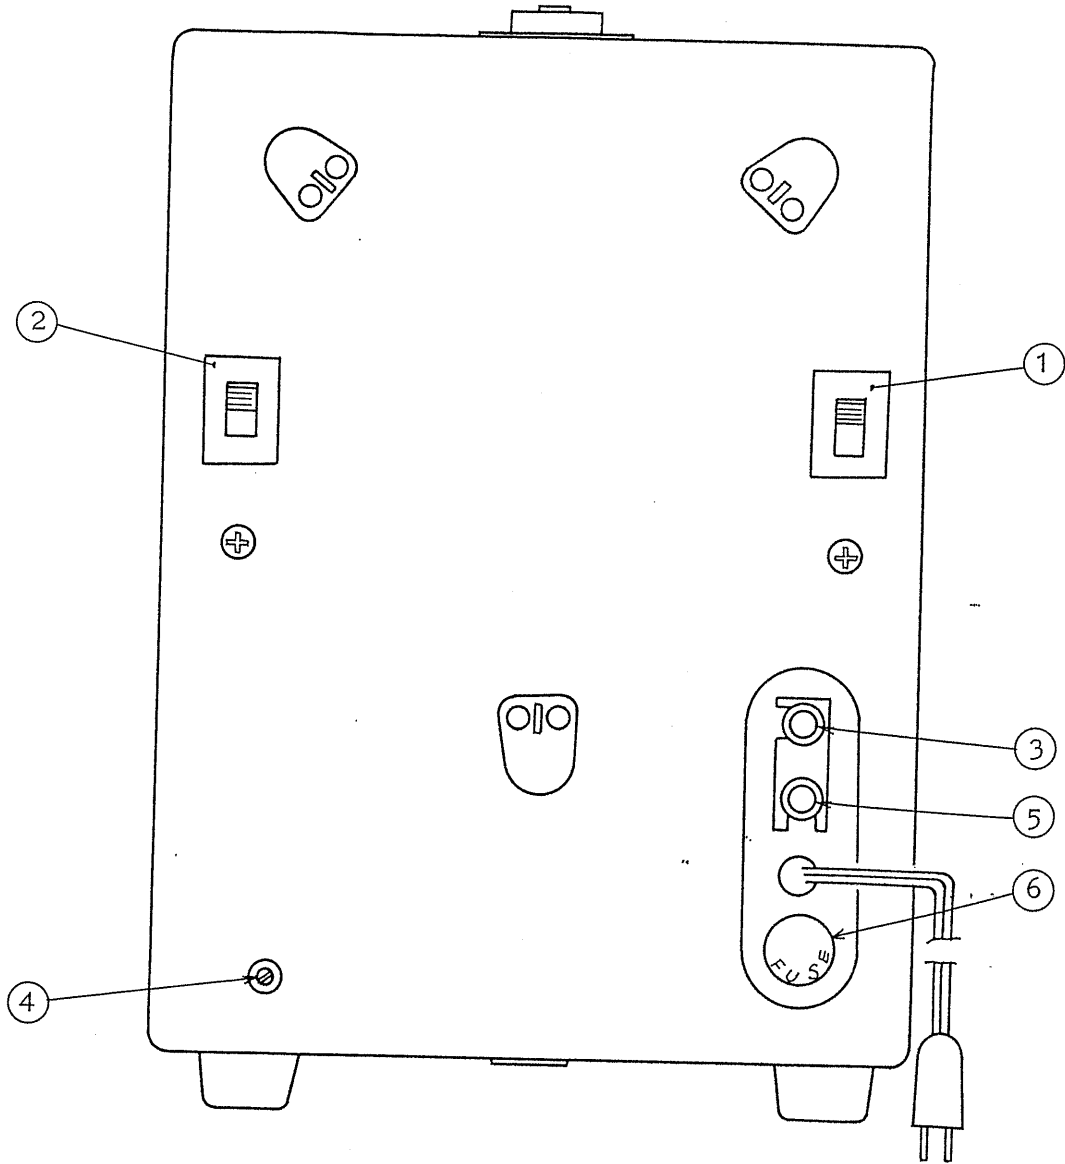

Fig. 2
3.2 Explanation of rear panel (See Fig. 2)
① POLARITY VERT.